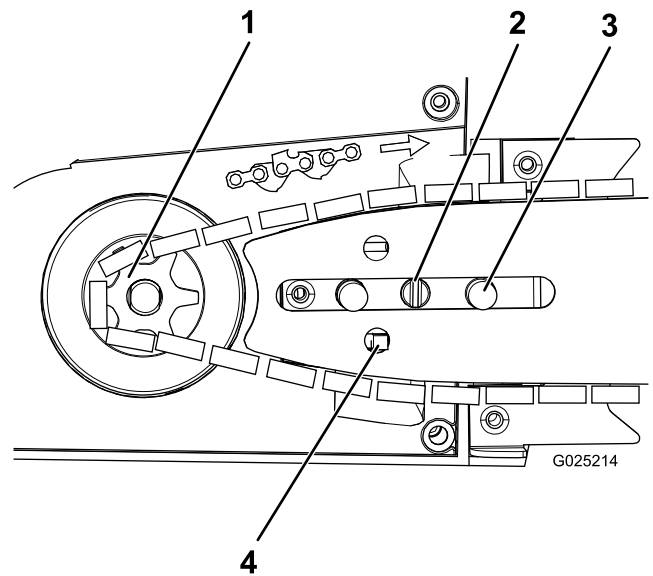

Figure 2
3. Turn the chain tensioning bolt to the left to move the mounting plate close to the sprocket (Figure 2).
5. Place the chain around the drive sprocket, with the teeth of the chain facing away from the sprocket (Figure 2).
9. Tighten the chain by turning the tensioning bolt to the right (Figure 2), until the chain touches the underside of the bar.